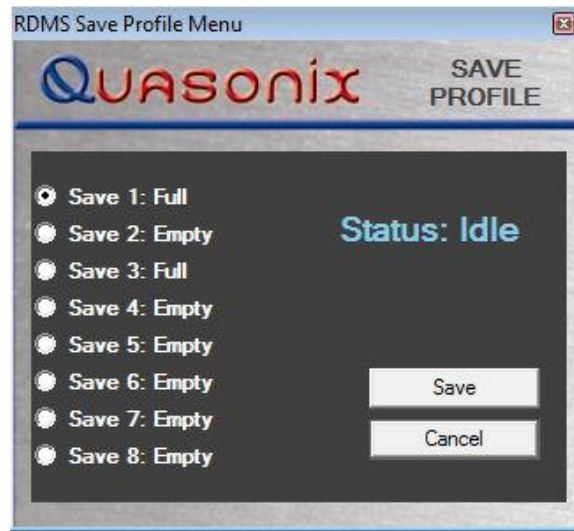

Figure 231: RDMS Save Profile Window
When the user selects the Save RDMS Flash Preset option, the menu/window shown in Figure 231 displays. From this screen, the user can access the eight (8) storage slots on the RDMS™ rack to save settings. This mirrors the save settings on the RDMS™ rack display.